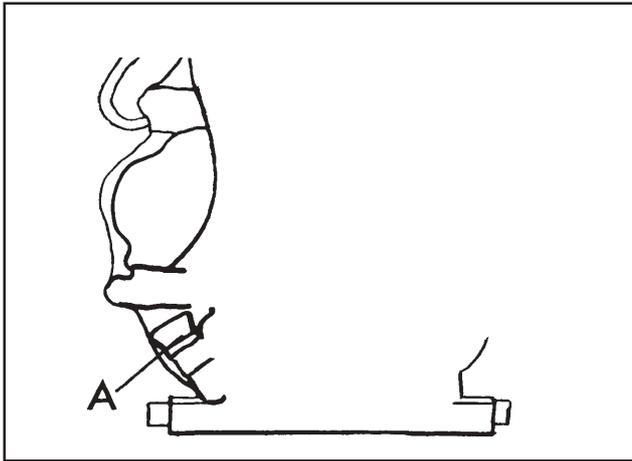

Fig.22
**CHECK THE OIL LEVEL** Fig.22
**CONTROLEER HET OLIEPEIL** Afb.22
**VERIFIEZ LE NIVEAU D'HUILE** Fig. 22